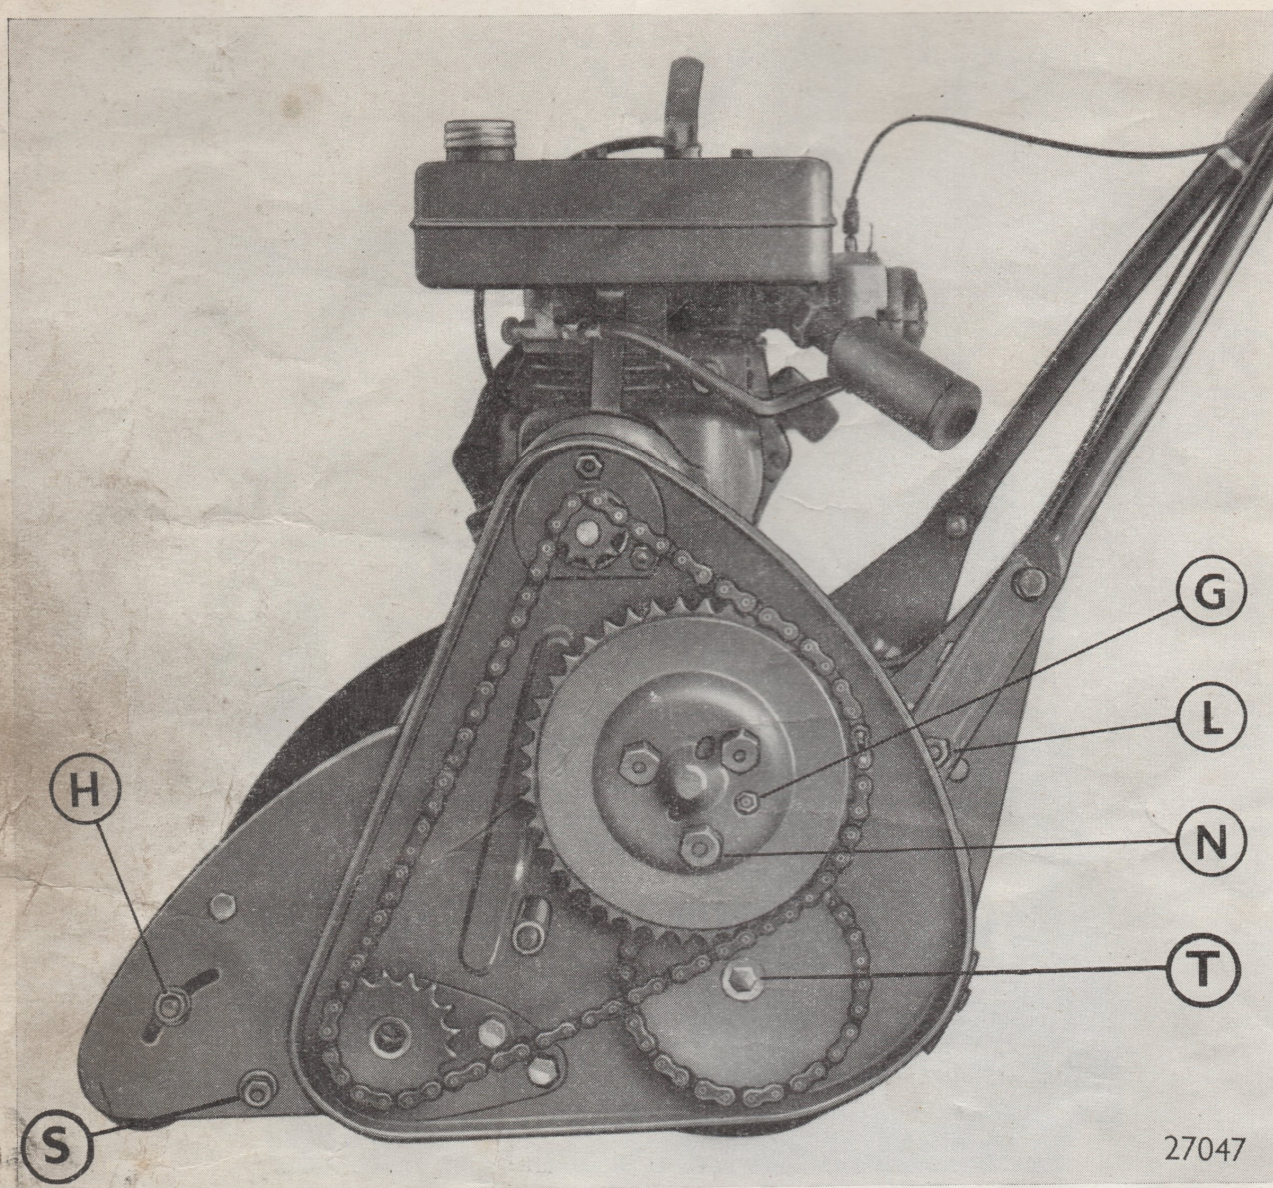
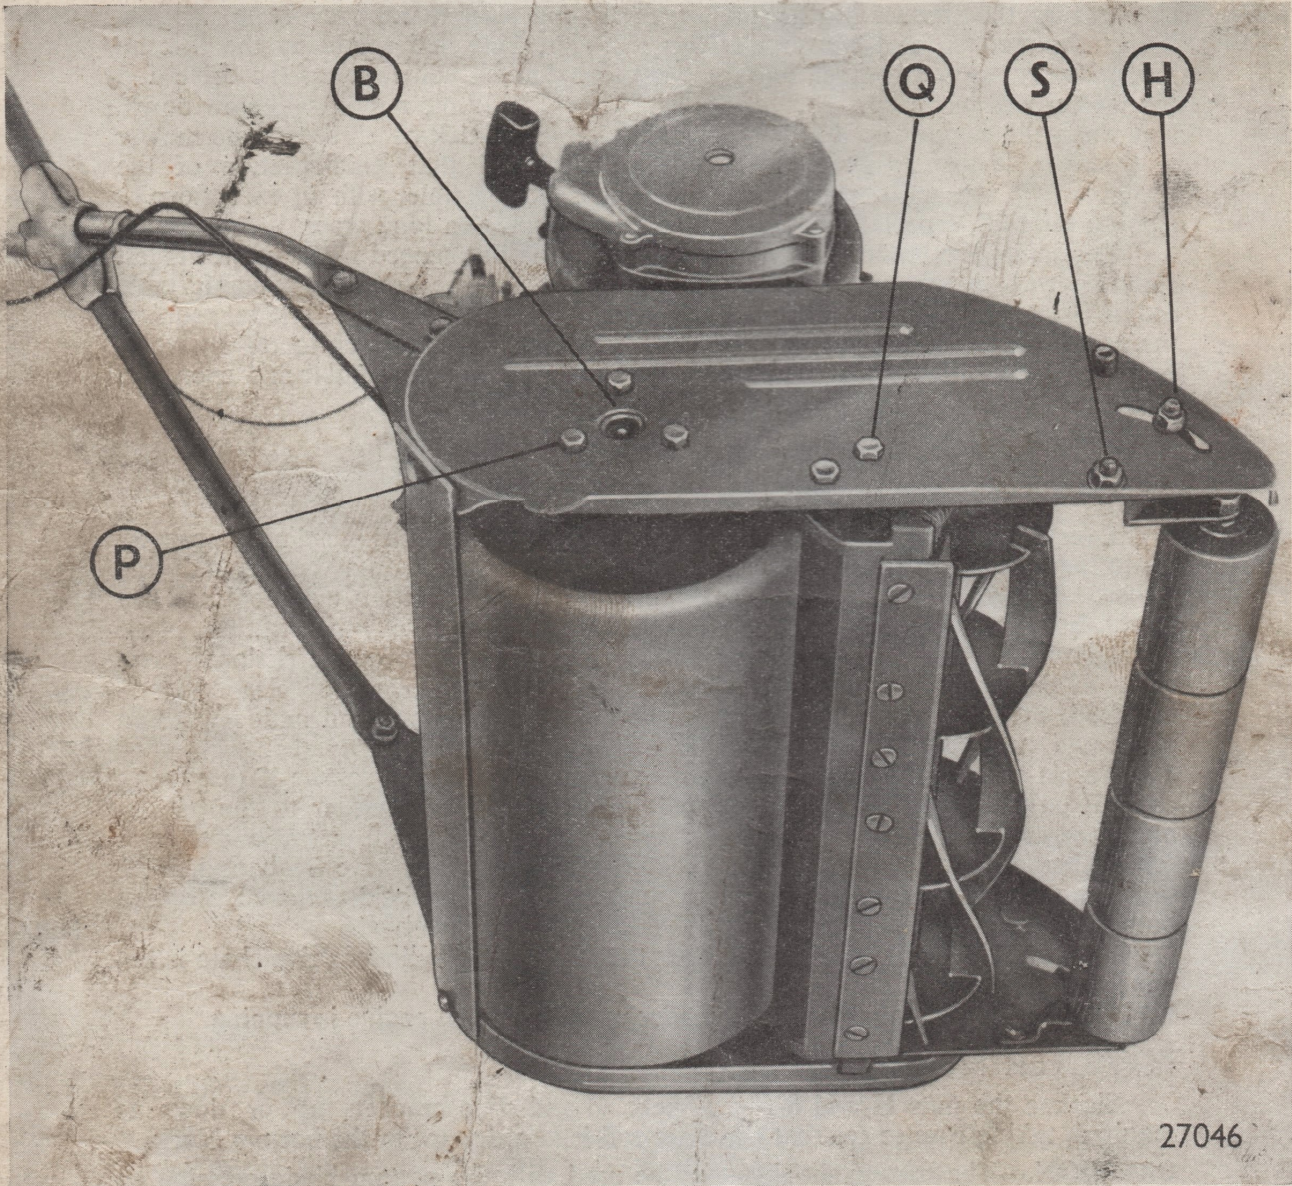

Fig. 4. View of transmission side of machine, with chaincase removed.
Fig. 5.
2. Land roll spindle bearings through nipple B in R.H. end of spindle (fig. 5, page 8) and through nipple C in L.H. side of deck plate (fig. 3, page 5).
4. Land roll clutch through nipple G in outer plate (fig. 4, page 6),
Slacken the nuts H and S (fig. 4, page 6) and slide brackets up or down as required, taking care to see that the front roll is kept square to the bottom block.
The height of the handles can be adjusted to suit the user. Slacken the bolts L (fig. 4, page 6) at the base of the handles, alter the height as required, and re-tighten the bolts.
Both chains are adjusted by repositioning the land roll plate clutch assembly. (Fig. 4). To adjust, disengage the clutch by lifting the clutch lever, turn the outer plate until the two holes in it line up with two holes in the nut beneath, insert special pin spanner provided in the tool kit and turn anti-clockwise to slacken nut. The clutch assembly can now be slid in the required direction to tighten the chains. Re-tighten nut. When correctly adjusted the chains should be slightly slack.
First undo screw in chain case and remove it and then take off land roll clutch assembly complete with chains. To remove this assembly proceed as follows. Undo the three hexagonal nuts N (fig. 4, page 6), and take off springs and distance tubes; the outer plate, chain wheel and chains can now be removed. Using the special pin spanner, slacken and remove the securing nut, and remove intermediate chain wheel and clutch stiffener plate.
Remove the locking screw "T" (fig. 4, page 6), noting that this screw has a R.H. thread, and now unscrew the chain wheel on the land roll spindle noting that this component has a L.H. thread. To prevent the land roll spindle turning with the chain wheel, engage the special key (LCG 427) in the slot at the opposite end of the spindle. After removing the set screws P (fig. 5, page 8) (three each side of the machine) which secure the land roll spindle bearings, the entire assembly may be dropped out of the main chassis.
Remove chaincase cover, concave and driving chains. Prevent the cutting cylinder turning by placing a piece of wood in cutters and unscrew the cylinder pinion, noting that this pinion has a L.H. thread. Remove the two screws Q (fig. 5, page 8) from each side of the machine which secure the cutting unit and the entire assembly can be dropped out of the mower.
Loosen off height adjusting nuts H (fig. 4, page 6) and drop the wood roll spindle until it is clear of the chassis. Remove nuts on end of wood roll spindle and draw out spindle. If it is desired to remove the adjusting brackets undo completely the height adjusting nuts and withdraw the brackets from their pivot bolts.